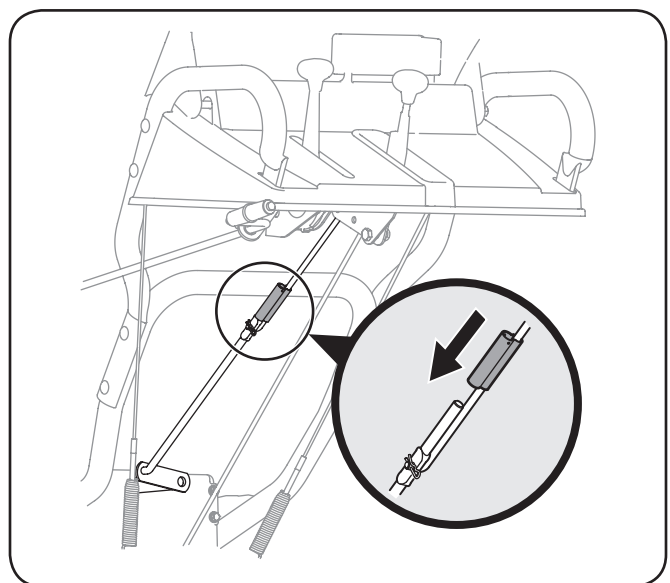

Figure 3-3
5. Align the upper and lower shift rods, then slide the shift rod connector down over the end of the lower shift rod. Tap the connector until the lower rod is completely through the connector. See Figure 3-3.